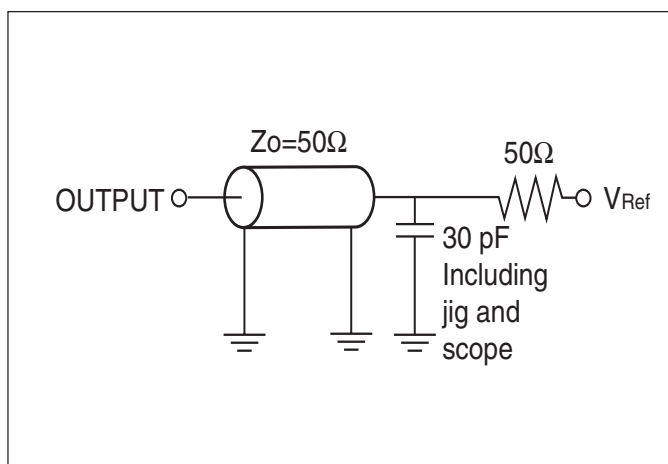

Figure 1a.
1. Test conditions assume signal transition times of 3ns or less, timing reference levels of 1.25V, input pulse levels of 0.4V to $V_{DD}-0.3V$ and output loading specified in Figure 1a.